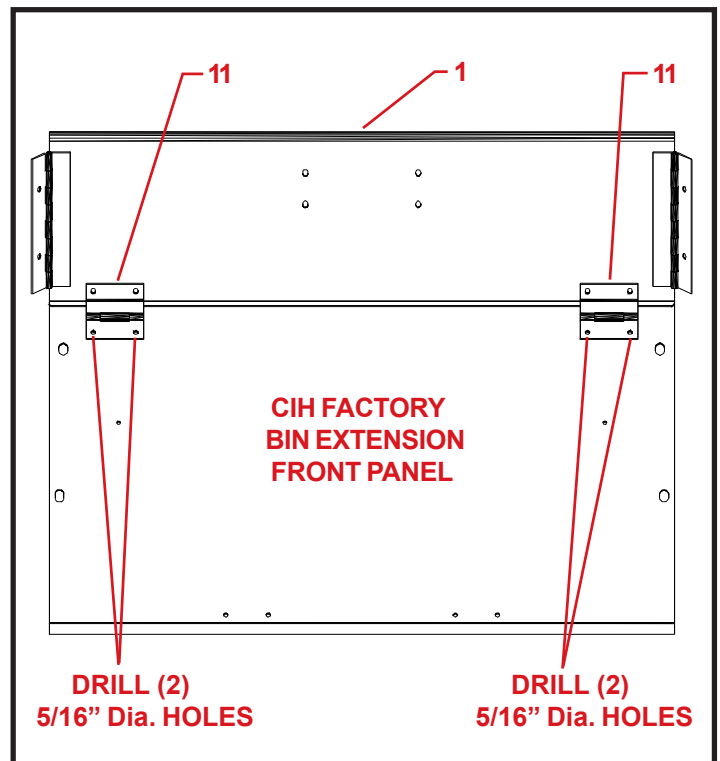

Figure 4
Center the front Tip-Up panel (44-1/4" long) to the inside of the front CIH factory bin extension panel. Clamp each end of the panels together with a vise-grip or c-clamp. Use the holes in the flat leaf of the black hinge as a template, and drill four 5/16" holes thru the front bin extension panel. Fasten the hinges to the bin extension panel with (2) 1/4" x 1/2" serrated flange bolts and (2) 1/4" serrated flange nuts, per hinge. (See Figure 4.)